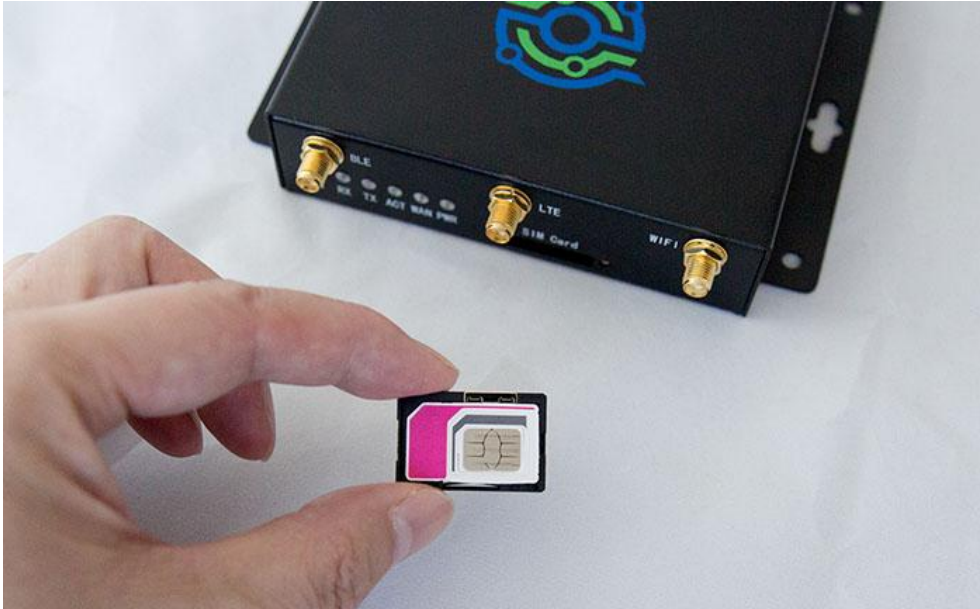

Figure 10 Insert SIM card to the SIM card tray
Step 3. Insert the SIM card to the SIM card tray with contact pins facing up. Make sure that the card is firmly inside the tray (Figure 10).